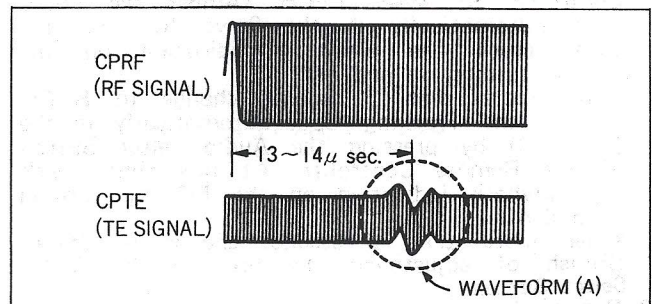

Fig. 9-8
3. Check that the Waveform (A) is as shown in Fig. 9-8.
- Place the unit in normal Play mode. Then confirm the Waveform (A) as shown in Fig. 9-8.